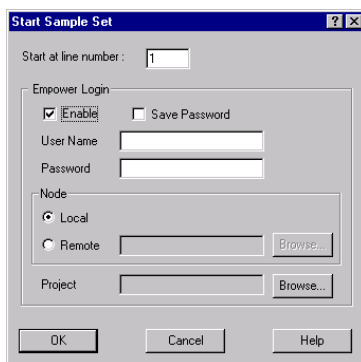

Figure 3-33 Start Sample Set Dialog Box
1. In the Sample Set Mode window, click Run to open the Start Sample Set dialog box (Figure 3-33).